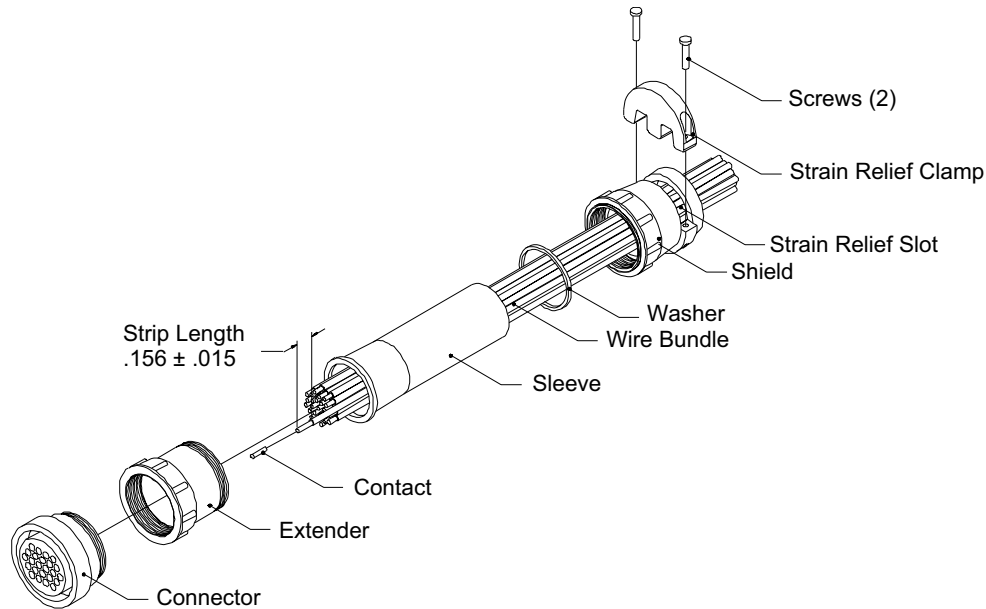

Figure 1: Shield/Strain Relief Assembly
A mating connector, sockets and a strain relief are included with the unit. See Figure 1: Shield/Strain Relief Assembly. To install, select the appropriate size strain relief clamp. Choose one of the two strain relief clamps enclosed with the sleeve and the extender. The clamping area is adjustable by inverting or changing the strain relief clamps. Discard the four strain reliefs on the carrier strip packaged with the shield. Insert the clamp into the strain relief until it bottoms. The clamp should bottom on the wire bundle, not on the shield's shoulder. If the wire diameter is too small, temporarily wrap the wire with electrical tape until proper clamping is obtained. Secure the clamp with the two (2) screws provided.